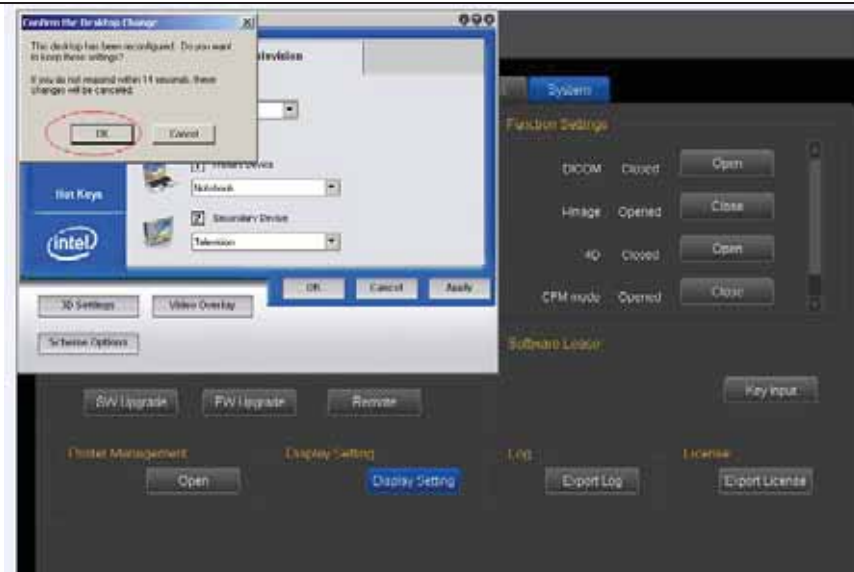

Fig.3-6
4) The below dialog box will appear, and press "OK". See picture in Fig.3-6.